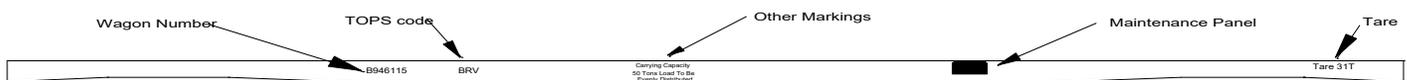

Figure 10
30. For positioning transfers, it's best to use photographs of real wagons (see references), however, **Figure 10** is a guide to typical positioning. When built, the wagons would have carried the Wagon Code (for example, 'Borail E.B.'), later on they would have received the TOPS Code BRV, and finally when in departmental service a few were coded YNV. Wagon numbers ('Numbersets') were usually on the left hand side. Both these were sometimes painted on a black background panel. Weight and Tare markings and Maintenance panels were placed towards the right, while other markings might be found in the middle. The letter E denoted 'Engineering' and would have been used with the YNV TOPS code.